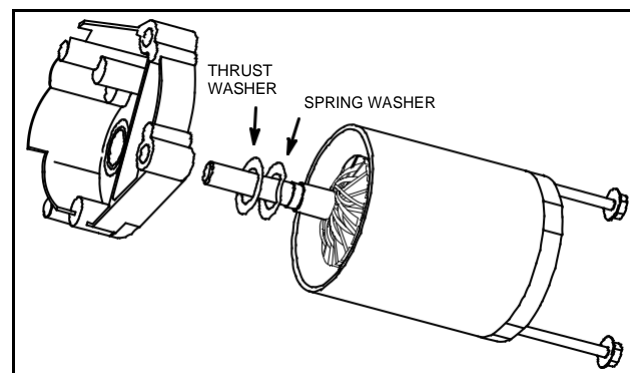

**Fig. 37 – Assemble Starter**
8. Align seam on housing with boss on brush end cap, Fig. 37. DO NOT damage magnets in starter housing.